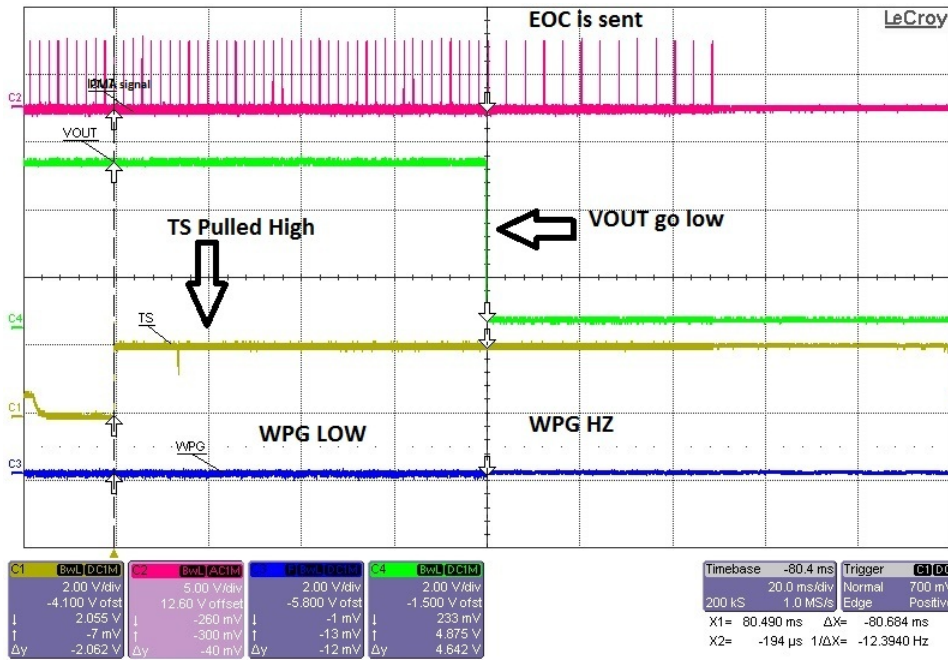

Figure 5. TS Control Function
- Monitor the TS pin, PMA signal (If a test fixture is used—to see End of Charge),  $\overline{WPG}$ , and output voltage as shown in Figure 5